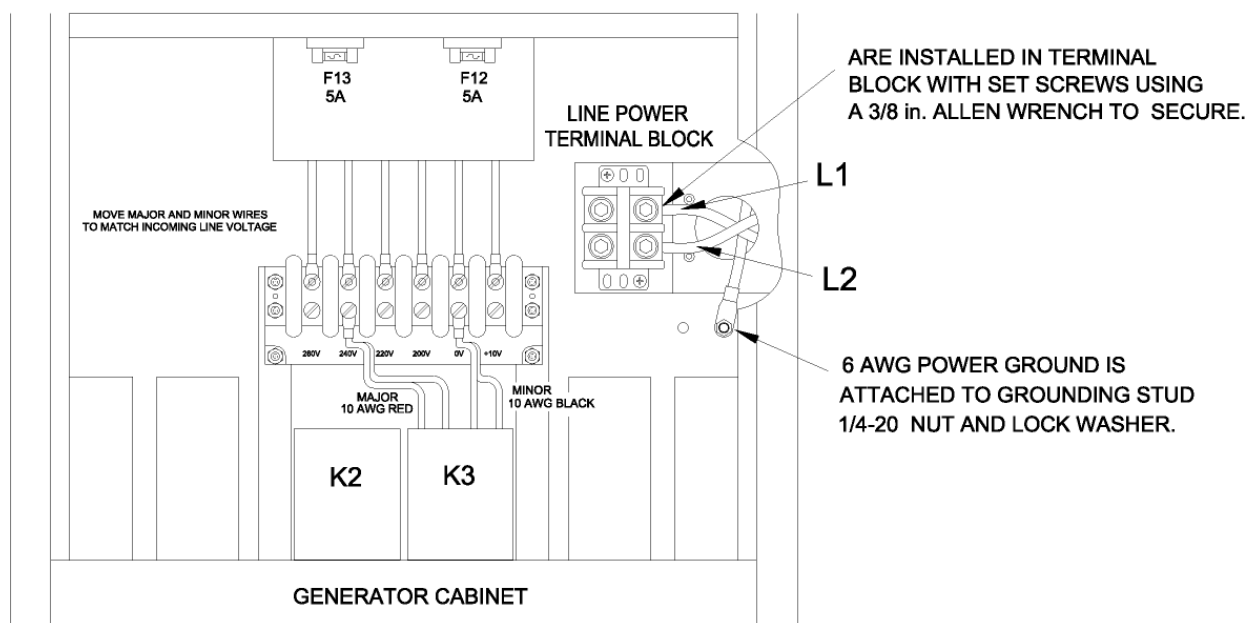

Figure 5-2d Supply Conductor Connections
- ◆ **Installing/connecting the equipment (See Figure 5-2d).**
1. HF-300/600 Generators require a line disconnect box (or according to local code) before the x-ray generator. This switch should be within reach of the operator. A separate earth ground, #6 AWG insulated wire, (green with yellow stripe) must be installed. The ground wire must be the **ONLY** wire connected to the ground terminal. See Fig 5-2d for power connections L1 & L2 and ground.